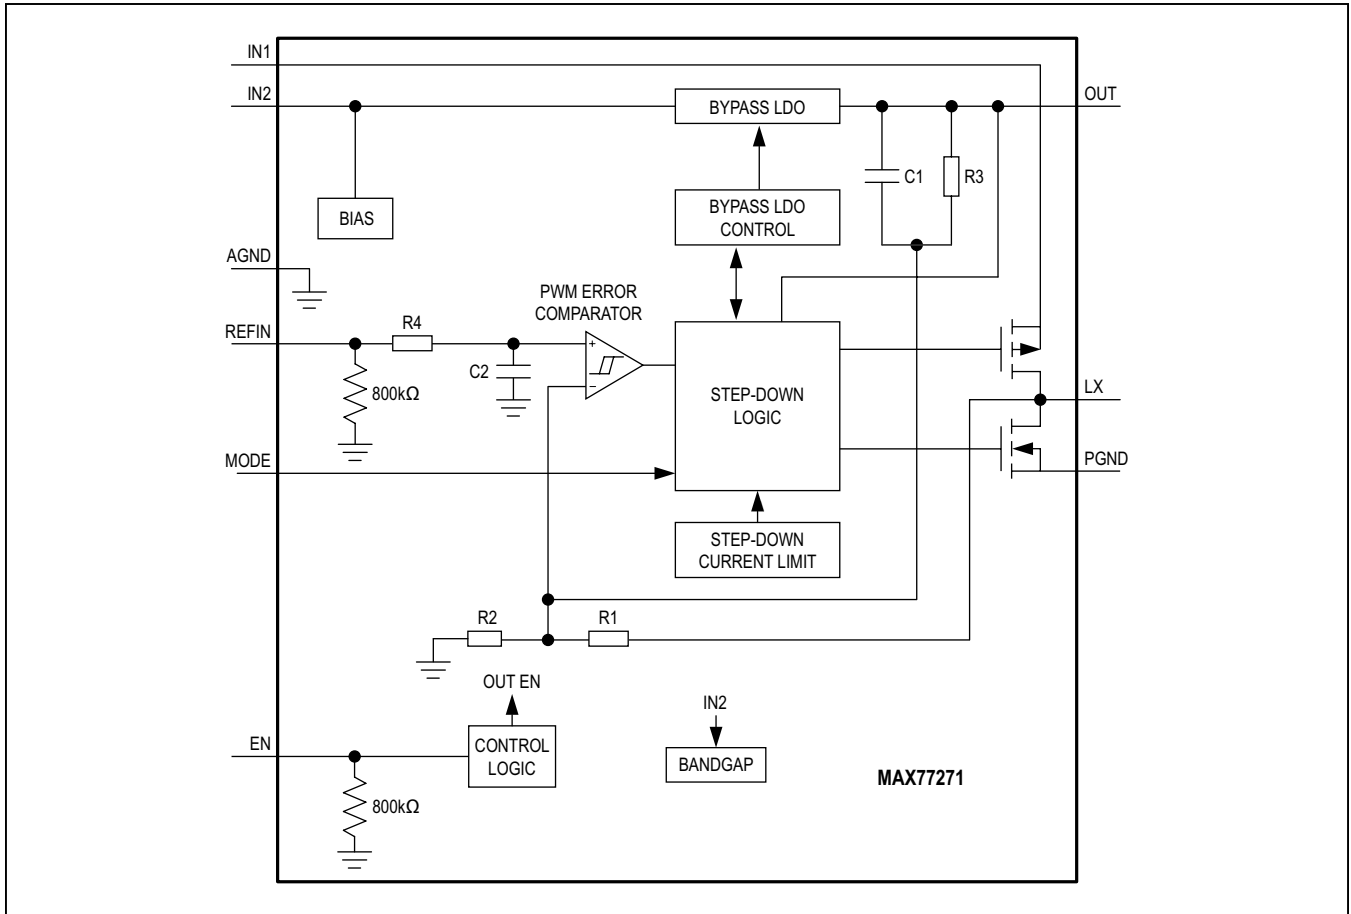

Figure 1. Functional Diagram
Hysteretic control is sometimes referred to as ripple control, since voltage ripple is used to control when the high-side and low-side switches are turned on and off. To ensure stability with low ESR ceramic output capacitors, the IC combines ripple from the output with the ramp signal generated by the switching node (LX). This is seen in Figure 1 with resistor R1 and capacitor C1 providing the combined ripple signal. Injecting ramp voltage from the switching node also improves line regulation because the slope of the ramp adjusts with changes in input voltage.
The IC step-down converter utilizes a unique feedback network. By taking DC feedback from the LX node through R1 of Figure 1, the usual phase lag due to the output capacitor is removed, making the loop exceedingly stable and allowing the use of very small ceramic output capacitors. To improve the load regulation, resistor R3 is included in the feedback. This configuration yields load regulation equal to half of the inductor's series resistance multiplied by the load current. This voltage-positioning load regulation greatly reduces overshoot during load transients and when changing the output voltage from one level to another. However, when calculating the required REFIN voltage, the load regulation should be considered. Because inductor resistance (RL) is typically well specified and the typical PA is a resistive load, the VREFIN to VOUT gain is slightly less than 2.5V/V. The output voltage is approximately: